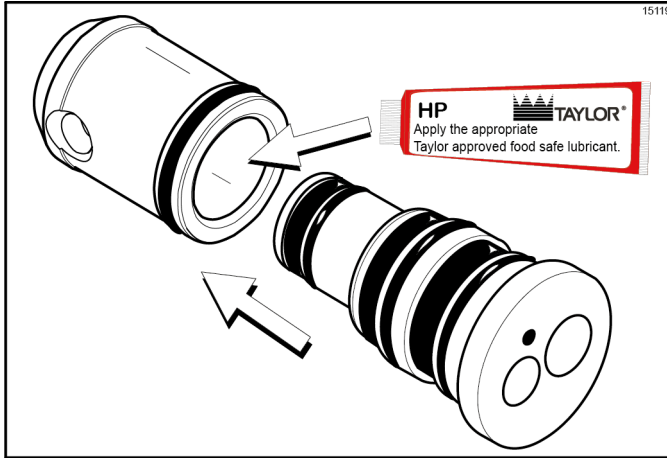

Figure 6-20
- Put a small amount of lubricant on the inside diameter of the piston. Insert the narrow end of the liquid valve body into the open end of the piston. Once applied, the amount of lubricant should be equal to a paper-thin film. (See Figure 6-20.)